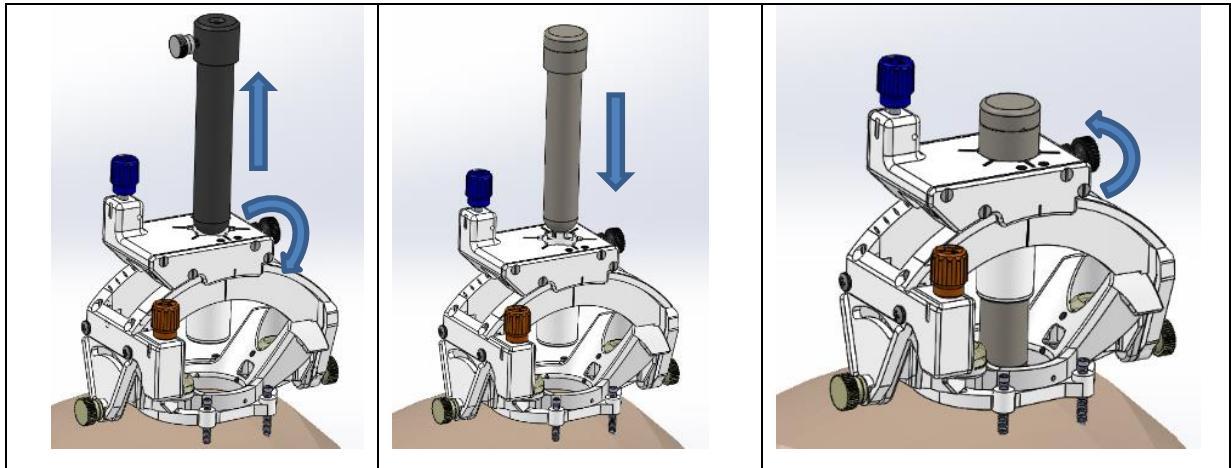

Figure 16: Removing the Probe Adapter (Left), Inserting the Targeting Stem (Middle), and Locking the Targeting Stem in the Tower (Right)
12. Remove the Probe Adapter from the Tower by loosening the Tower side thumb screw and pulling the Probe Adapter out of the Tower. **See Figure 16 (Left).**
13. Remove the Targeting Stem from the packaging tray and insert it into the SMARTFrame Array Tower until it bottoms out. Then, tighten the Tower side thumb screw to secure the Targeting Stem in the Tower. **See Figure 16 (Middle) and (Right).**